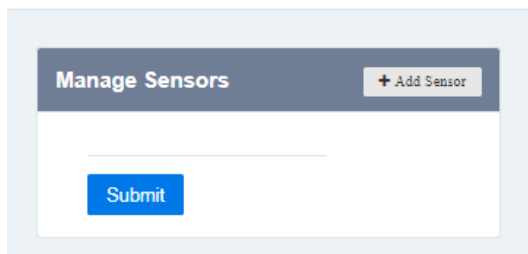

Figure 16. Configuring Sensors
2. Initially there will be no sensors listed in the Manage Sensors section as seen in **Figure 16**.